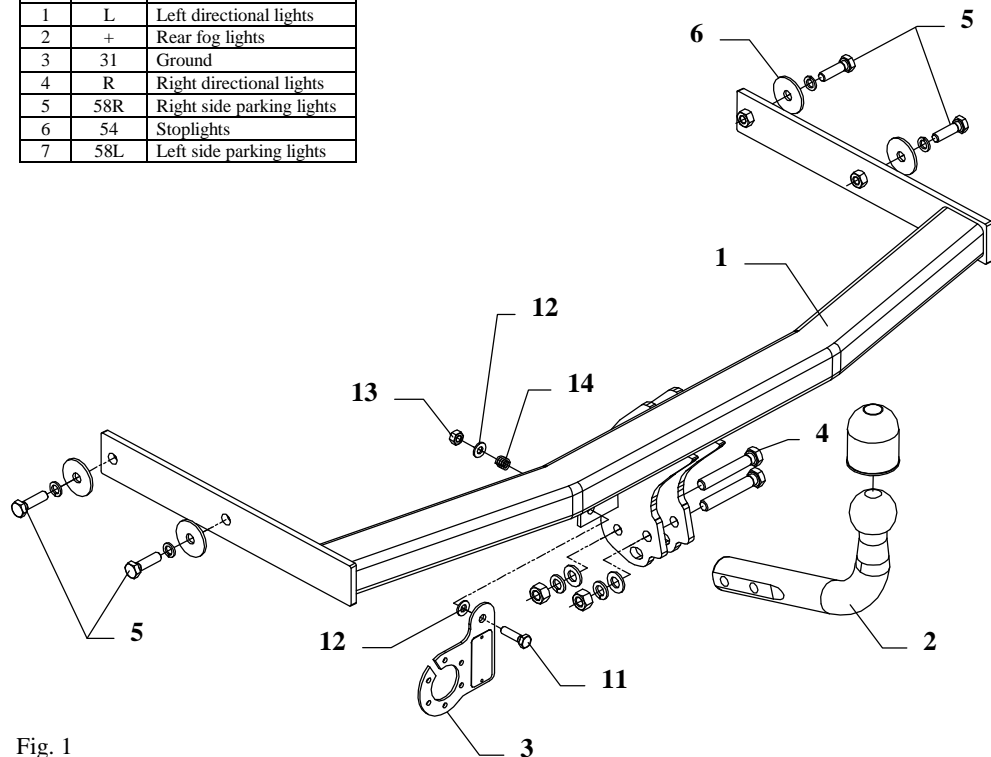

Fig. 1
3. Slide the main bar of the towbar (pos. 1) into the chassis and then fix with M10x35mm (pos. 5) bolts with washers (pos. 6) from the towbar accessories.
4. Position the ball of towbar (pos. 2) and fix with M12x75mm (pos. 5) bolts from the towbar accessories.
5. Fix socket plate (pos. 3) according to figure 1.